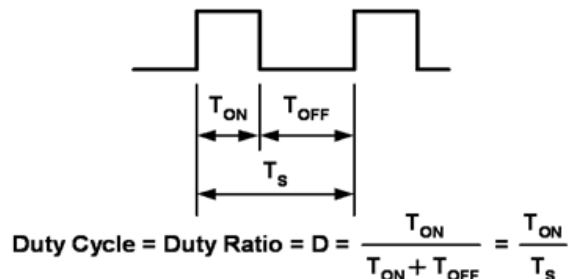

Figure 12.
the human eye will detect a flicker from the light emitted from the LEDs. Between 500 Hz and 20 kHz the circuit may generate audible sound. Dimming is achieved by turning the LEDs on and off for a portion of a single cycle. This on/off cycle is called the Duty cycle (D) and is expressed by the amount of time the LEDs are on (Ton) divided by the total time of an on/off cycle (Ts) (Figure 12).